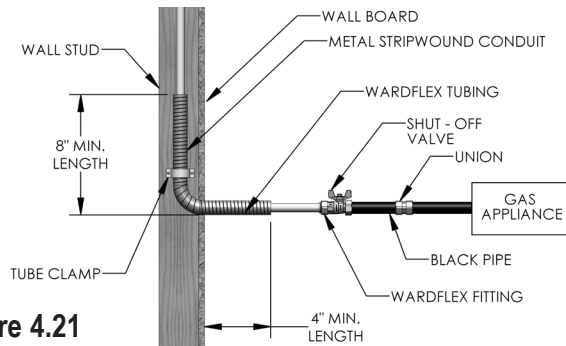

Figure 4.21
- A. WARDFlex®/WARDFlex®MAX can be directly connected to a non-moveable appliance such as a furnace or water heater (Figure 4.21) (be sure to check with local code if this is acceptable prior to installation).